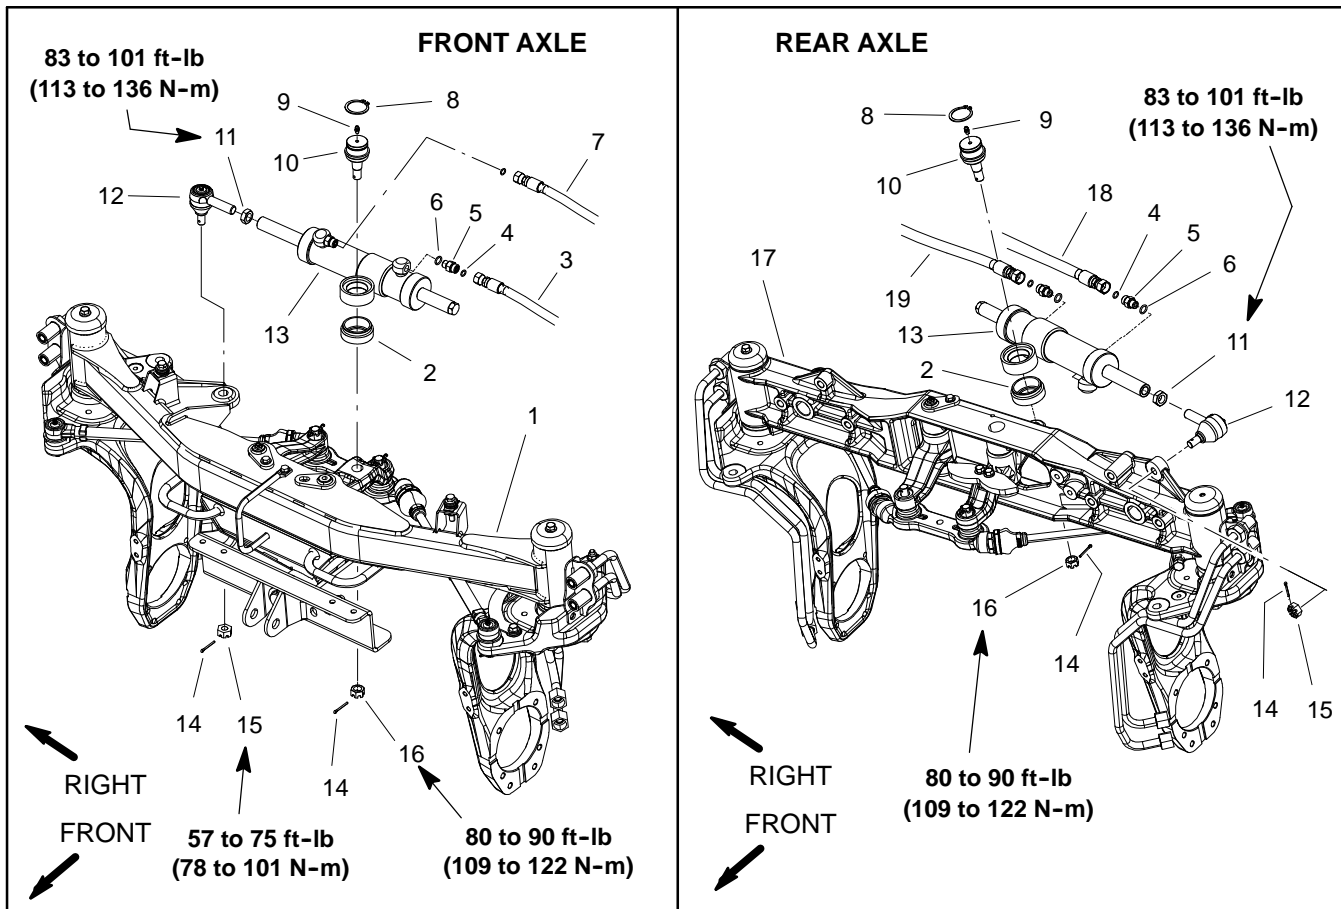
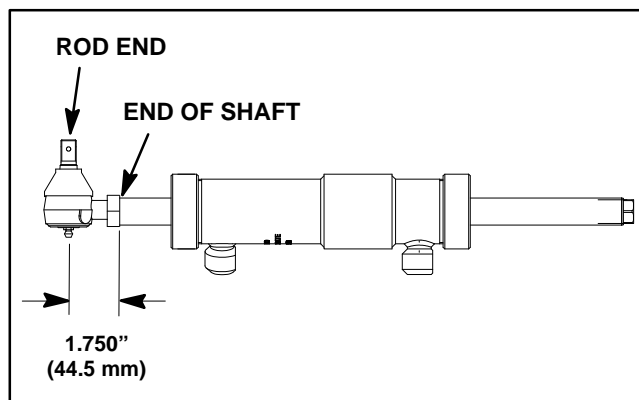

Figure 132
Figure 134
### Removal (Fig. 132)
8. Remove cotter pins (item 14) and slotted hex nuts (items 15 and 16) that secure steering cylinder to axle.
10. If ball joint (item 10) is to be removed from cylinder, note direction that ball joint is installed in cylinder. Remove ball joint from steering cylinder barrel.
11. If necessary, remove rod end (item 12) from steering cylinder shaft.
**Installation (Fig. 132)**
2. If removed, press ball joint (item 10) into barrel and secure with retaining ring.
3. If rod end (item 12) was removed from steering cylinder shaft, thread rod end into shaft so that distance from end of shaft to center of grease fitting in rod end is 1.750" (44.5 mm) (Fig. 134). Torque jam nut from **83 to 101 ft-lb (113 to 136 N-m)**. Make sure that distance from end of shaft to center of grease fitting doesn't change during jam nut tightening.
6. Secure steering cylinder to machine with slotted hex nuts (items 15 and 16).
A. On front axle steering cylinder, torque rod end slotted hex nut (item 15) from **57 to 75 ft-lb (78 to 101 N-m)**. If necessary, continue to tighten hex nut to allow cotter pin installation.
B. On both front and rear axle steering cylinders, torque barrel end slotted hex nut (item 16) from **80 to 90 ft-lb (109 to 122 N-m)**. If necessary, continue to tighten hex nut to allow cotter pin installation.